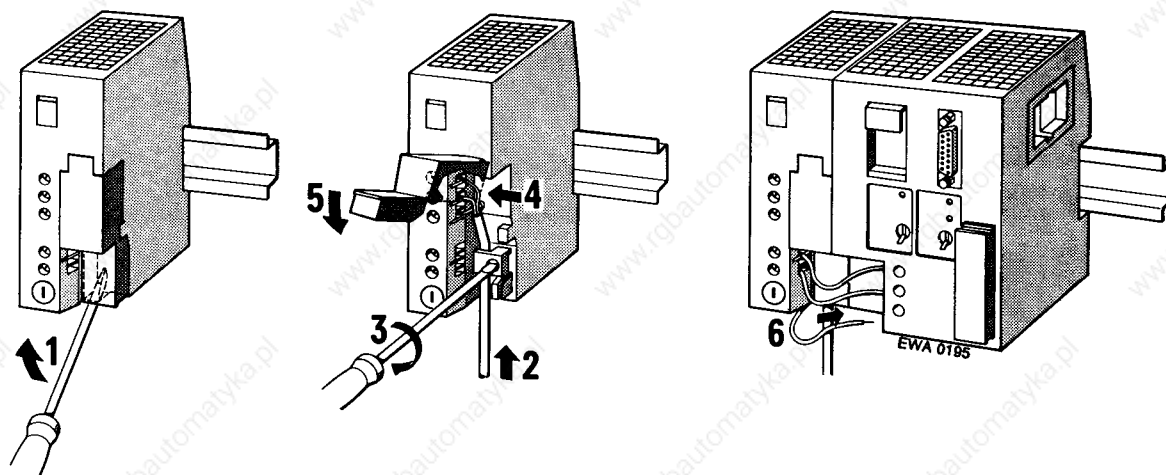

Figure 3-11. Connecting a Power Supply Module and a CPU
3. Connect the supply cable to terminals L1, N and $\underline{\text{—}}$ (see Figure 3-11).